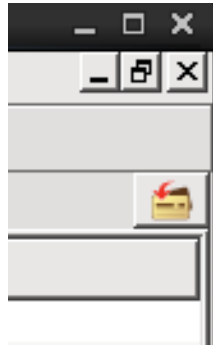

Figure 12: Generate Addresses button.
5.18. The last step is to generate addresses for any unmapped instances, in this case there is only one: the axi_cdma_0. Select the Addresses tab and then select the Generate Addresses icon (it is at the top right most portion of the window it is the icon with the red arrow pointing to a yellow folder, refer to Figure 12). to generate the addresses.